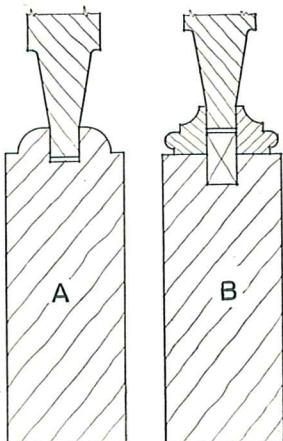
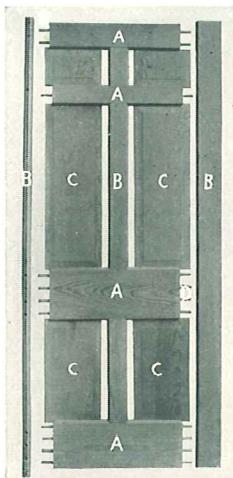

Fig. 1. (A) Curtis *ovolo* molding is cut on the stiles and rails themselves.
Fig. 2. Door parts ready for assembling by an automatic clamp.
Figure 1 illustrates the two types of molding used on Curtis doors. The style of molding that is used around panels in any door determines in a large degree the character and beauty of its design. These moldings are of two general kinds: solid and applied. The solid molding shown in Figure 1(A) is known as Curtis *ovolo*. It is cut on the stiles and rails of the door. The *flush* molding shown in Figure 1(B) is a separate molded strip that is "planted in"; i. e., bradded or nailed to the spline in the stile or rail.
Fig. 3. A— $1\frac{1}{8}$ " strip of veneer. B— $3\frac{1}{4}$ " hard-wood edging strip. C— $1\frac{1}{8}$ " white pine core blocks for  $1\frac{1}{8}$ " doors;  $1\frac{1}{2}$ " white pine core blocks for  $1\frac{3}{4}$ " doors. The stiles and rails of the veneered door have cores of white pine blocks tongued-and-grooved and glued together (C in Fig. 2);
strips of hardwood  $\frac{3}{4}$ " thick are then applied to the edges of the built-up core (B in Fig. 2). Finally strips of veneer  $\frac{1}{8}$ " thick (A in Fig. 2) are glued with waterproof glue to the surfaces of the built-up cores. The stiles and rails are then ready to be molded if the door is to have Curtis ovolo molding, to be grooved to receive the panels, and to be bored to receive the dowels. The parts are then clamped together as in Fig. 1.
Curtis doors are assembled by an automatic clamp; the stiles, rails, and panels are first laid out as shown in Figure 2 and then forced into place by the uniform pressure of the clamp.